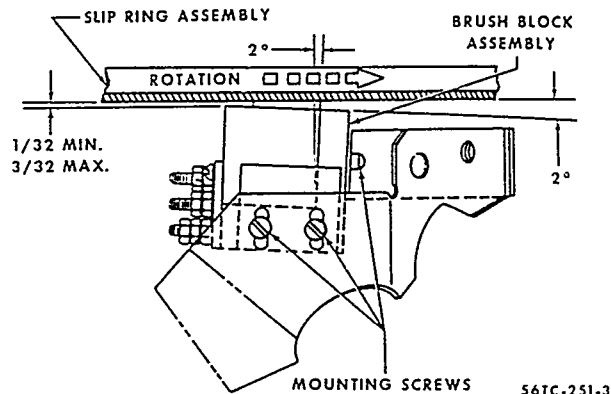

Figure 11-7. Deicer Brush Block Installation
p. Check for proper clearance between the slip rings and the brush block (see Figure 11-7). The clearance should be $1/16 \pm 1/32$ inch with an angle of approximately two degrees from perpendicular, as measured toward the direction of slip ring rotation. If not correct, loosen the brush block mounting screws and move in the elongated holes to correct the brush block position.
The above adjustments may affect the clearance between the brush block and slip rings/ consequently, after slip ring alignment, a check should be made to ascertain that a distance of from 1/32 to 3/32 inch is maintained between the brush block and slip ring surface (see Figure 11-7).